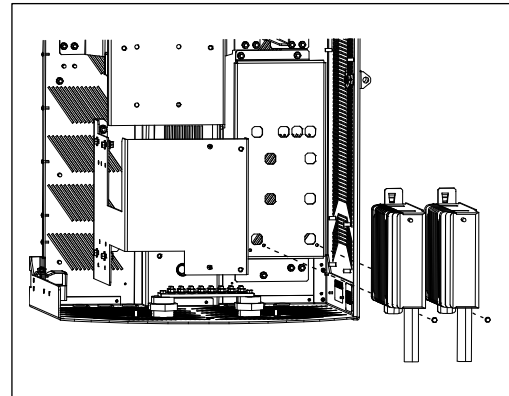

Figure 17 Attach AC-08
3. Mount the bracket/power supply assemblies onto the SHRD60 rear panel (Figure 17). Use the 12-24 hex screws included with the kit.